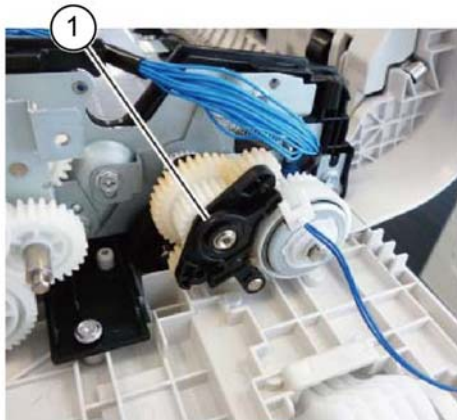

Figure 1 Stopper link removal
6. Remove the stopper link, Figure 1.